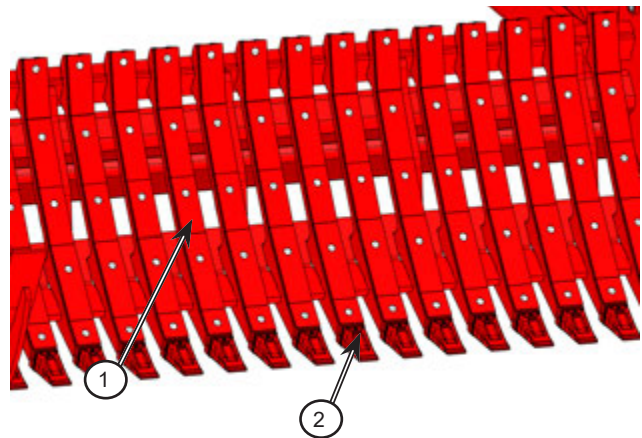

Figure 6.26: Check the condition of the tines
2. Check the condition of the tines; see Figures 6.26 and 6.27.
- a. Check that the top of the tines (wear plates) (1) are tight and not missing any fasteners. Tighten as required.
- b. Check that the replaceable tine tips (2) are in good condition, and the spring pins in each are centered and not loose or damaged. Tighten as required.
- c. Check that the bolt (3) fastening each tine onto the apron is tight. Tighten as required.